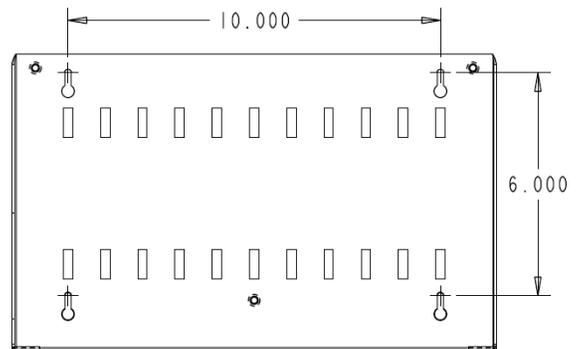

Figure 2
- 4) If desired, wall mounting can also be accomplished with use of the optional mounting shelf (See Optional Mounting Shelf and Figure 2).